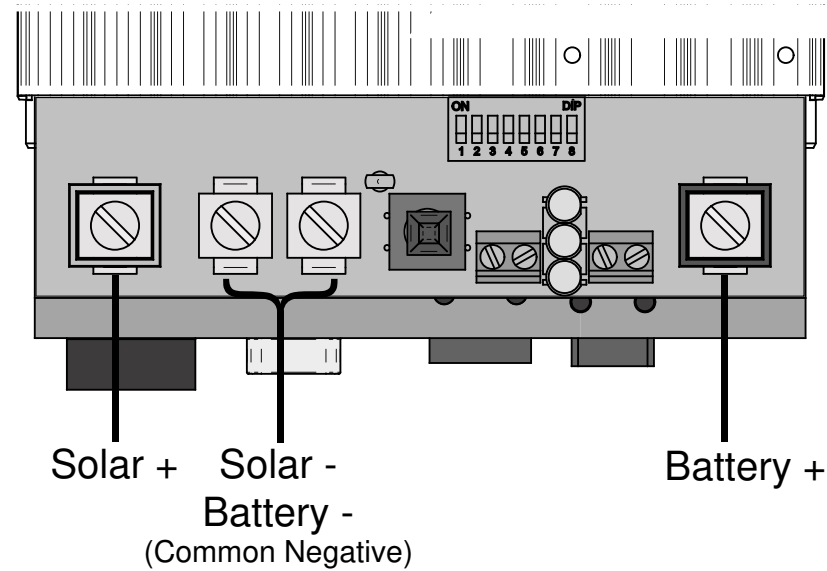

Figure 3-7. Power terminal locations
Connect the four (4) power conductors shown in Figure 3-7 above in the following steps: